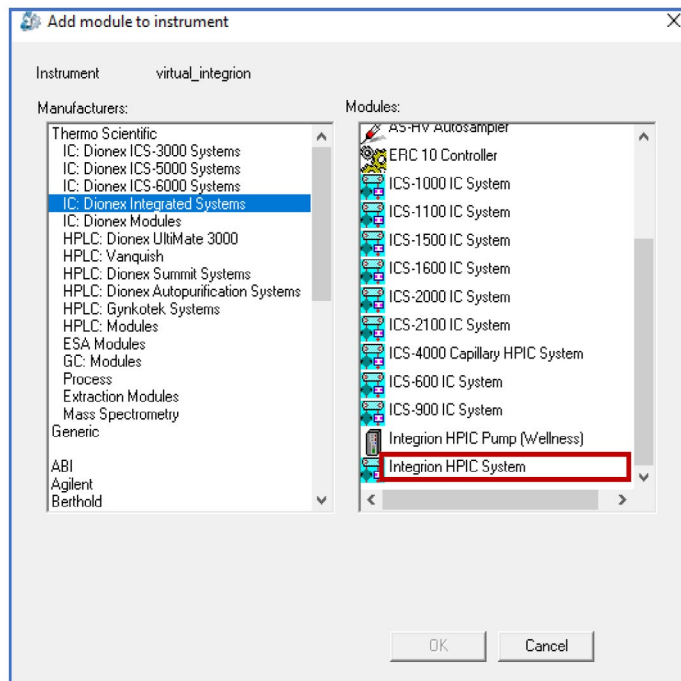
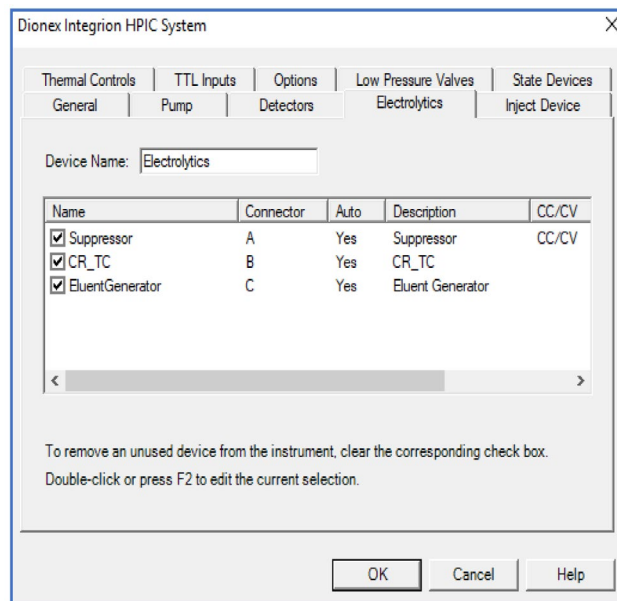

Figure 1. Adding Integrion HPIC system module to configuration
Figure 2. Automatic detection of electrolytic devices
1. Select *Add a Module, IC: Dionex Integrated Modules, and Integrion HPIC System* (Figure 1). A window with multiple tabs will open automatically (Figure 2).
2. Select the Model Serial No. on the General tab. The Chromeleon CDS software will automatically detect all electrolytic devices, detectors (Figure 2), pump degasser, and seal wash pump (not shown). Chromeleon 7 CDS manages and controls the Nittoseiko AQF-2100H system and the Dionex Integrion HPIC system. TTL cables are no longer needed but remain an option.